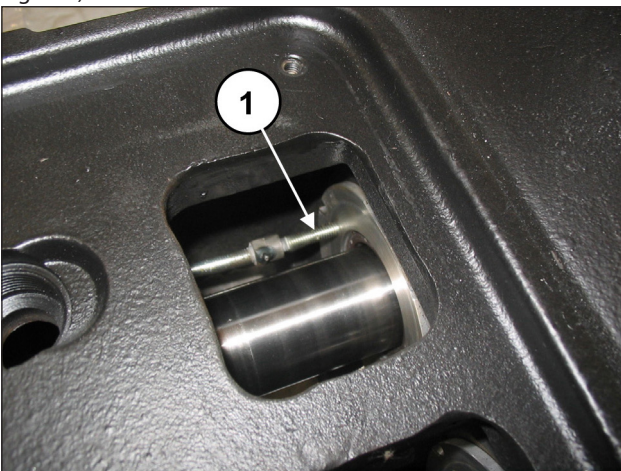
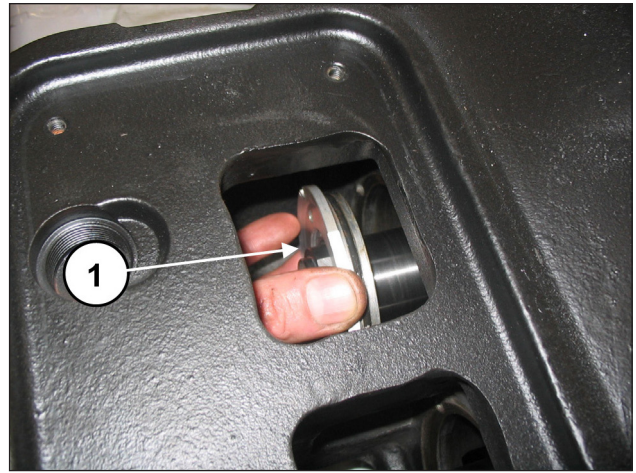

Fig. 158
Fig. 159
Position the piston guide at bottom dead centre, screw the extractor code 27516400 including the M5 adapter code 27516500 in the holes in the cover (pos. ①, Fig. 158) and remove the oil seal cover from the pump assembly (pos. ①, Fig. 159).